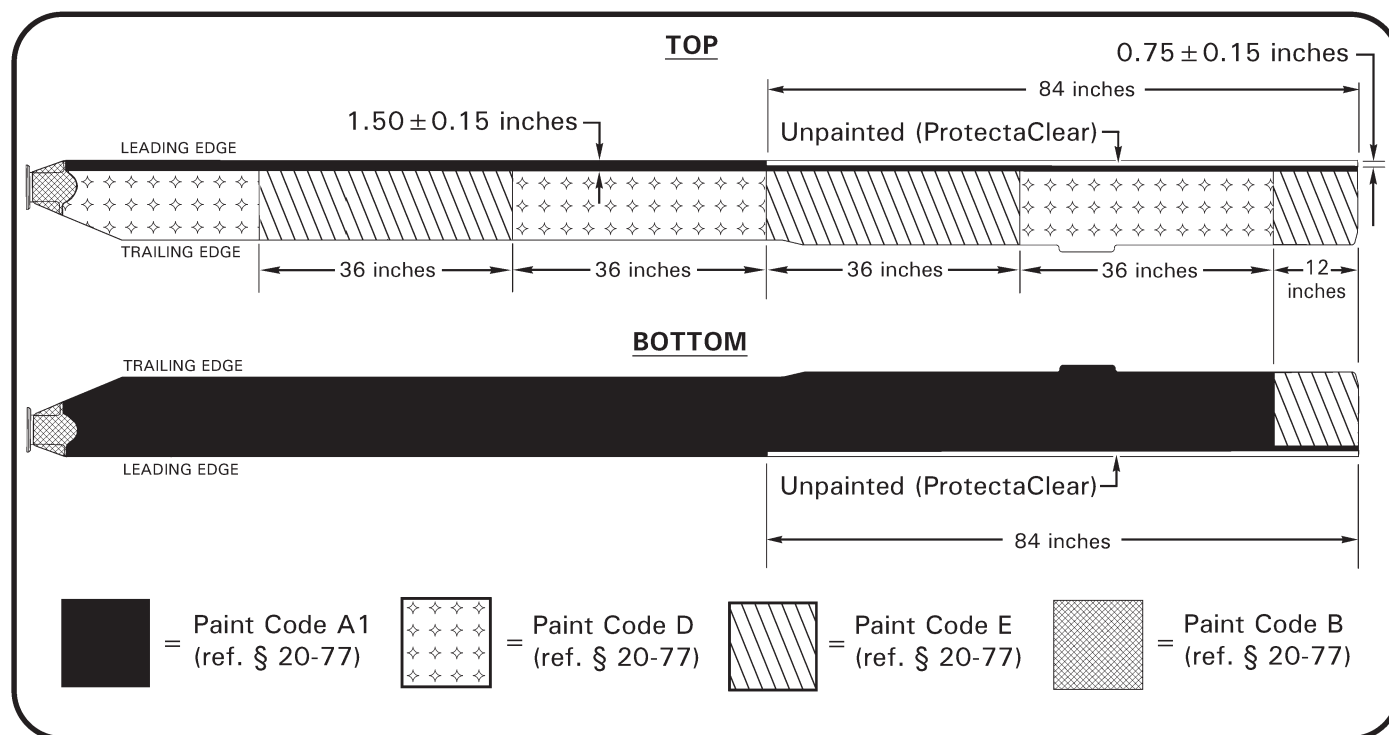

FIGURE 62-21 MAIN ROTOR BLADE PAINT SCHEME
4. Refer to Figure 62-21. Mask blade(s) as required, and protect helicopter to prevent overspray contamination.
6. Refer to Figure 62-21. Apply dark gray, flat black, white, and/or yellow polyurethane enamel, as required, to primed area in accordance with paint manufacturer's recommendations.
Refer to Figure 62-21. Repaint leading edge per § 62-52 as required. Outboard leading edge may be refinished per Part C.
5. Refer to Figure 62-21. Using 3M vinyl tape (or equivalent), apply masking to blade(s) along 0.75-inch dimension and aft of feathered paint. Protect blade(s) and helicopter from overspray contamination.